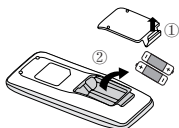

Fig.1
1. Lift the cover along the direction of arrow (as shown in Fig 1 ① ).
2. Take out the original batteries (as shown in Fig 1 ② ).